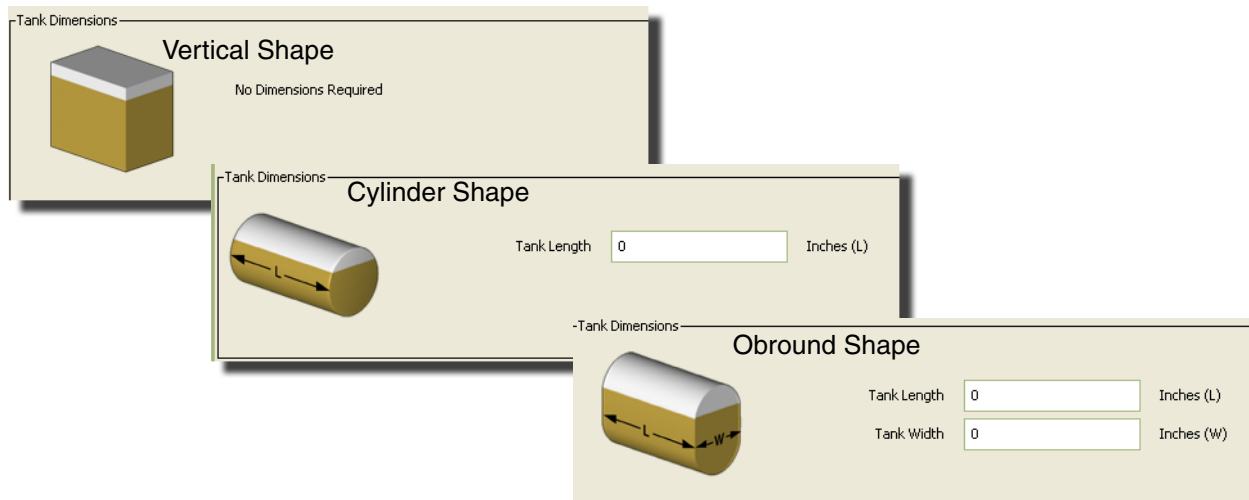

FIG. 102
- **Tank Shape:** select either vertical (default), cylinder or obround. Additional dimension information is required for Cylinder and Obround shaped tanks (See FIG. 102).